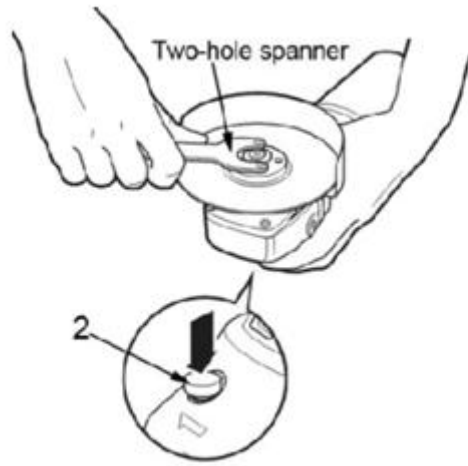

Fig.4
5.4 REPLACING THE GRINDING DISC (FIG. 4)